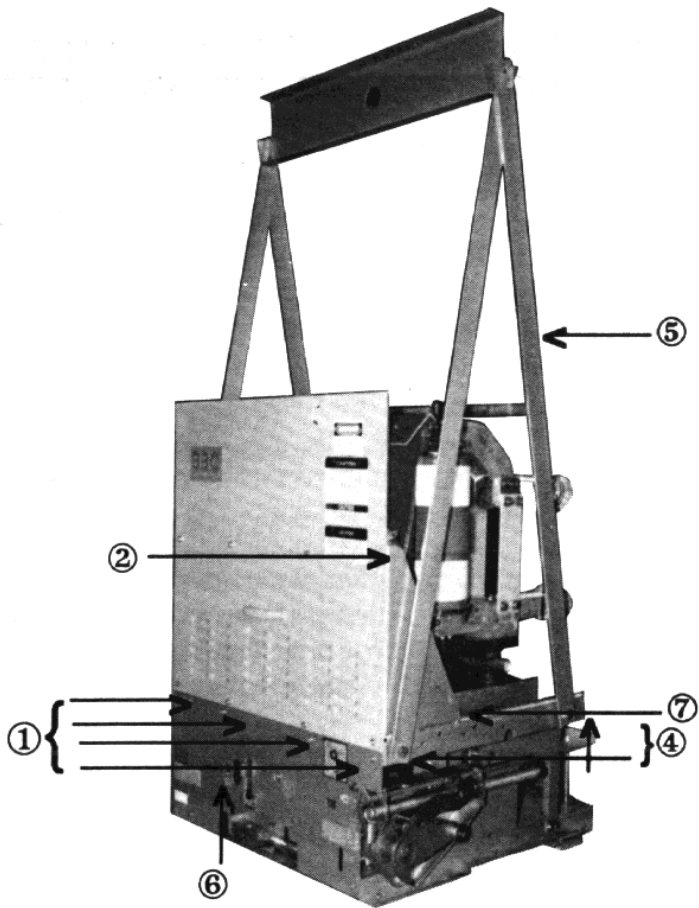

Fig. 1 - Circuit Breaker Assembly with Lifting Yoke Installed
Referring to Fig. 1, if it is necessary to raise or move the breaker, attach a lifting yoke (5) at Point 4 on both sides of the truck, or a fifth wheel at point 6 to transport the breaker as required.
The front cover and interphase barrier assemble (2, Fig. 1) must be removed for access to and inspection of the vacuum interrupters, and their associated adjustments.
Removing Front Cover and Interphase Barrier (See Fig. 1)
Installing Front Cover and Interphase Barrier (See Fig. 1)